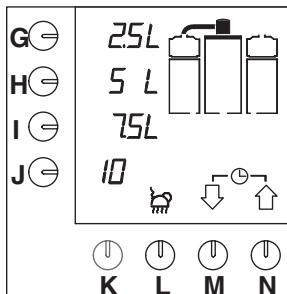

Fig. 7 Display with the default options
- The indicator lamp in the switch lights up. The default options appear in the display (fig. 7).